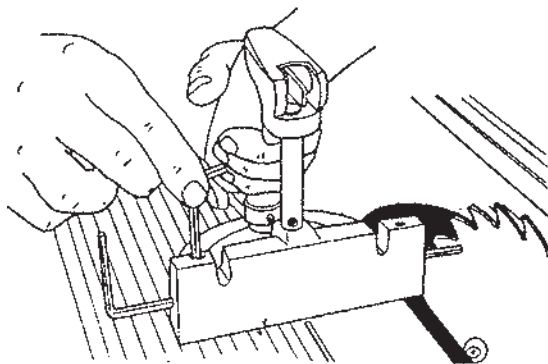

Figure B-74
- 43. Insert the long 5/32" Allen wrench through the miter gauge. Borrow a set screw from the lathe tool rest and use the short 5/32" Allen wrench to install it in either top miter gauge hole, as seen in Figure B-74. Place the tip of the long wrench against the front side of the saw blade and tighten the set screw.